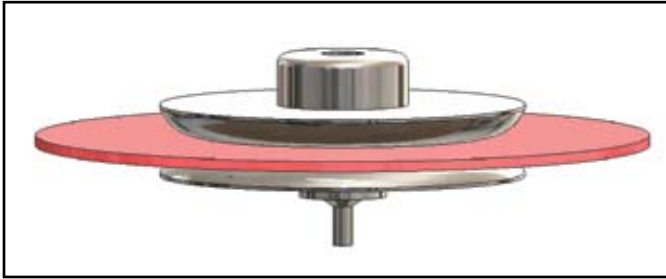

Figure 1: Diaphragm Subassembly
1. Remove adjusting screw assembly (14) completely out of the spring housing (11).
2. If valve is removed from the line, clamp the valve in a vise using the body (1).
3. Remove spring housing (11).
4. Remove range spring (5) and spring seat (10).
5. Remove diaphragm assembly parts (2), (3), and (4). See Figure 1.
7. Remove seat holder (8), seat (9) and plug (7) from body (1).
8. Place new plug (7) into body chamber. Make sure the bottom stop rod (bigger end) of the plug (7) goes down inside the return spring (6).
9. Place the new seat (9) into the seat holder (8) and carefully install into body cavity (1) taking care not to bend the narrow rod on top of the plug (7) when it passes through the seat holder (8).
10. Refer to Figure 1. Unscrew the lower diaphragm plate (4) from the upper diaphragm plate (2). Discard the old diaphragm (3) and reassemble with new one. Use LowFlow replacement diaphragm only.